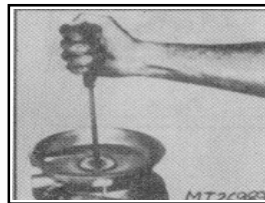

Fig. 11
- c. Position the case assembly over the phillips screwdriver in the vise; with a second phillips screwdriver loosen and remove the opposite screw (Fig. 11).